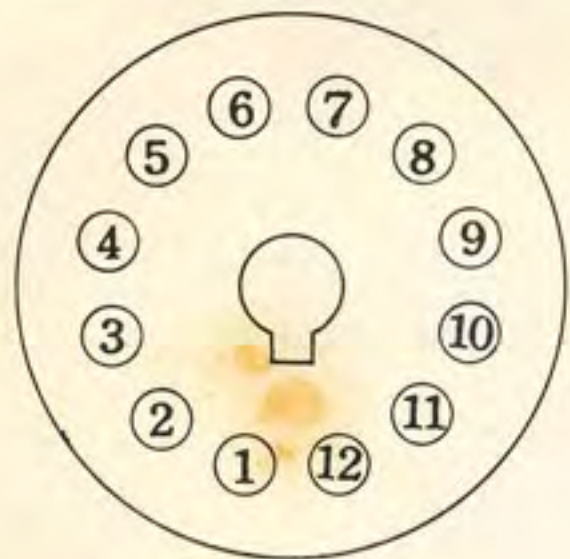

Fig. 5
If an amplifier of any type other than the R 220 is used, the recording head connector plug must be wired as shown in Fig. 5. In this case, it is important to prevent hum or noise that mechanism ground (12) and the ground terminal of such an amplifier must be connected using 1-pin cord which is supplied as an accessory.